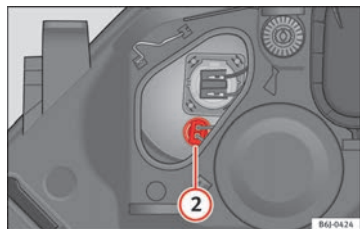

Fig. 163 Side lights.
- Remove connector ⇒ Fig. 163 ② by pulling outward.